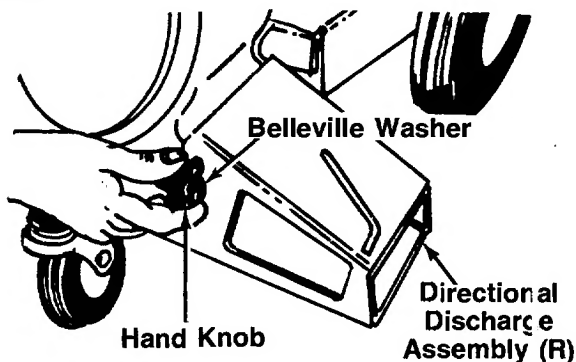

FIGURE 14.
6. Place the directional discharge assembly (R) over chute opening. Secure with two hand knobs and belleville washers. See figure 14.